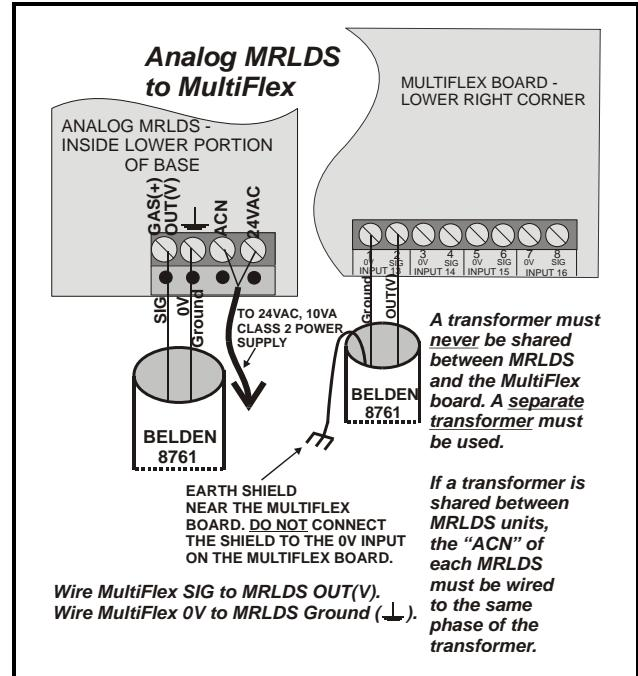
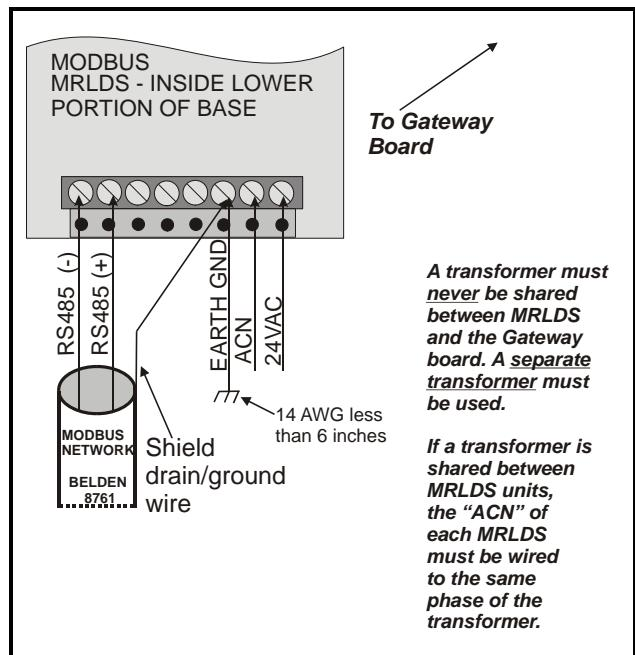

Figure 3-2 - Analog MRLDS Wiring
Figure 4-2 - Modbus MRLDS Wiring
3. Connect the wires to the terminal connector located in the base, as indicated in **Figure 4-2** and **Figure 3-2**.